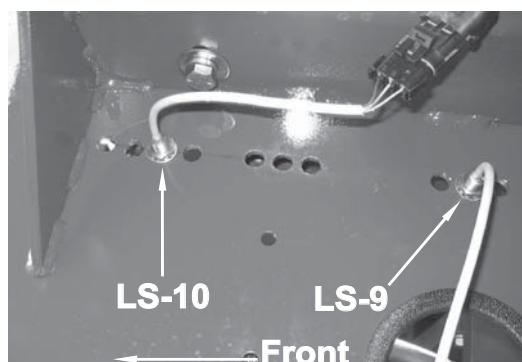

Figure 102 - Twine Needle Yoke in Home Position
1. Unplug LS-10 switch (see Figure 102).
LS-9 (see Figure 102 page 50) decelerates the plunger to half of full speed just prior to the end of its retract stroke. The plunger will retract if LS-10 or LS-9 are not tripped.